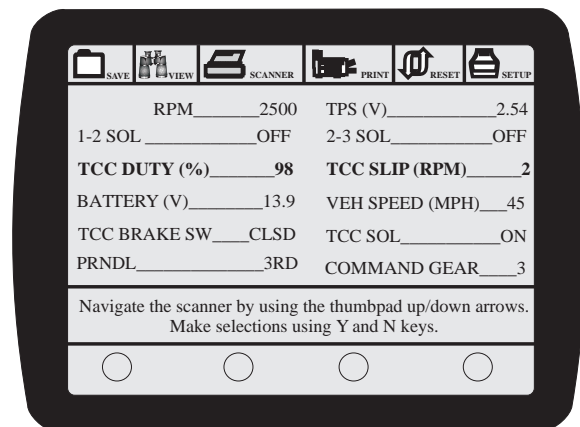

Figure 100
- This data indicates that we have the proper signals for TCC application, but the converter clutch is **mechanically** slipping which will generate code P0741 or 39 with the 4L80E transmission. In Figure 100 the TCC system is operating properly, slip is near zero rpm.